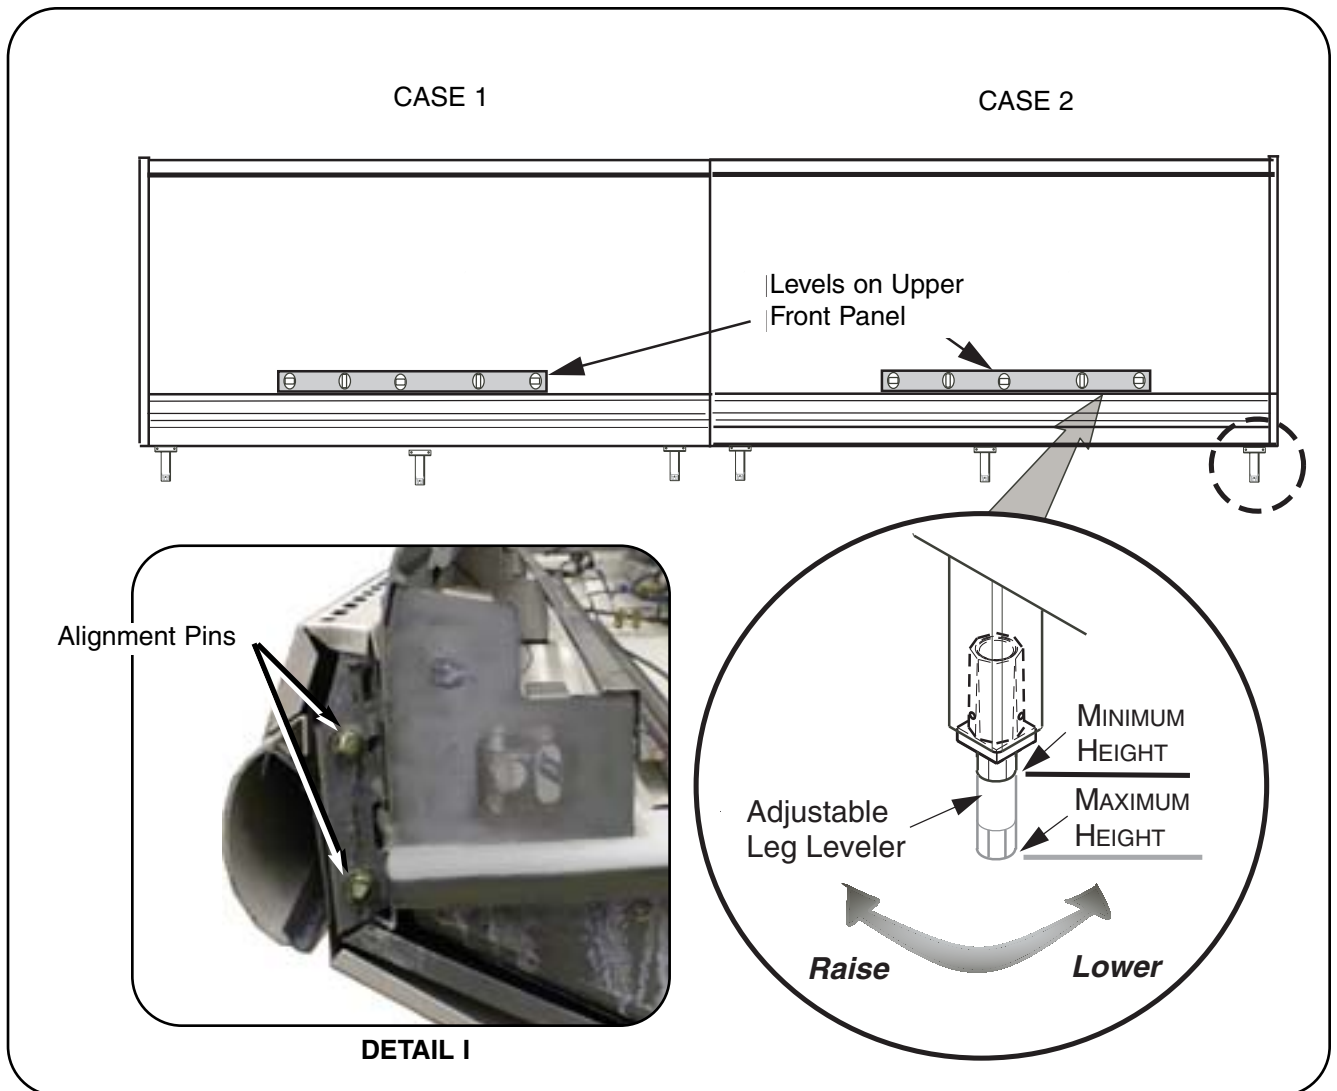

Figure 7. Leveling Merchandisers
9 Move the second merchandiser into position against the first. Match the alignment pins with the corresponding holes. See **Figure 7, Detail I.**
A. Set a long level (4 foot or more) on the upper front panel of the merchandisers. Adjust case height by rotating the Adjustable Leg Leveler until the merchandisers are flush and level. See **Figure 7.**